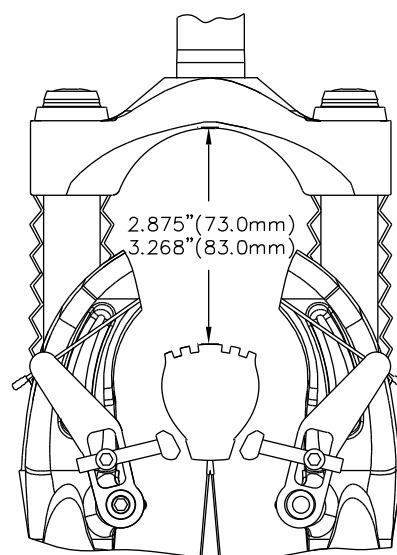

FIGURE 3: TIRE CLEARANCE
**WARNING:** When installing wheel or any new tire check the minimum tire clearance. Measure from the highest point on the tire to the bottom of the crown. The minimum clearance allowed for 70MM travel fork models is 2.875"(73.0MM) and 3.268"(83.0MM) for 80MM travel fork modles. Any less clearance can result in accident resulting in serious injury or death. Figure 3